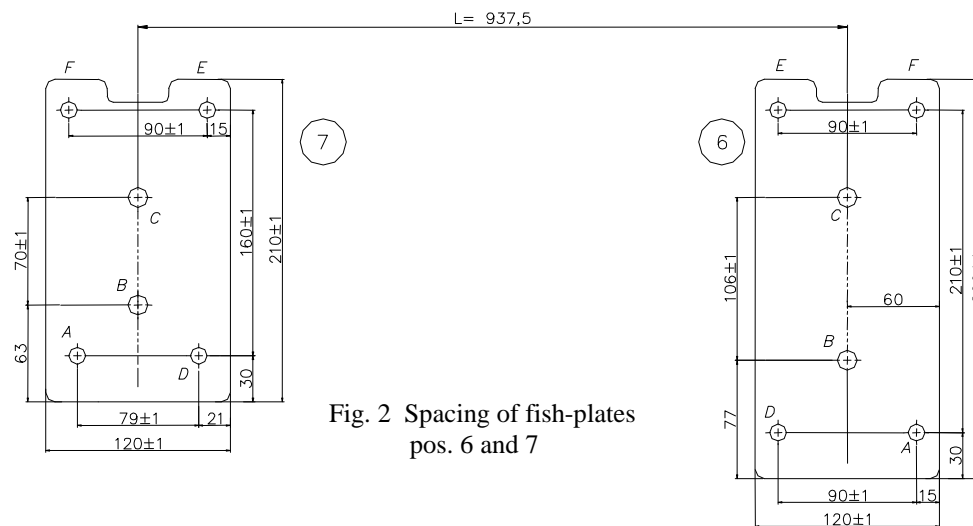

Fig. 2 Spacing of fish-plates pos. 6 and 7
3. Inside trunk, on the left and right side put fish-plates 6 and 7 (see figure 2). Next fix it through hole pos. A using bolts M8x30mm (pos. 14) in points originally threaded (remove plastic plugs).
4. Arrange fish-plates in accordance to dimensions from figure 2. Next mark points of rest holes. Then drill marked points straight through: bit $\varnothing 12,5\text{mm}$ holes pos. B and C, bit $\varnothing 8,5\text{mm}$ holes pos. D, E and F.
5. Disassemble both fish-plates. Made holes pos. B and C enlarge from trunk side using bit $\varnothing 25,5\text{mm}$; to enlarged holes put distance sleeves $L=62\text{mm}$ (pos. 8).
6. Reassemble fish-plates again and in holes pos. B and C put bolts M12x100mm (pos. 10) and in rest of holes put bolts M8x35mm (pos. 14). Bolts M8 fix to the floor using big washers $\varnothing 25 \times \varnothing 9 \times 2\text{mm}$ (pos. 17) and spring washers.
7. Underneath the car put side brackets (pos. 4 and 5) on bolts M12 protruding from the trunk and fix it loosely.
9. Fix handle of the muffler through hole pos. H using bolt M8x60mm (pos. 13), use distance sleeve $L=30\text{mm}$ (pos. 9).
10. Between assembled brackets (pos. 4 and 5) put main bar of the towing hitch (pos. 1) and fix it using bolts M12x35mm (pos. 12).